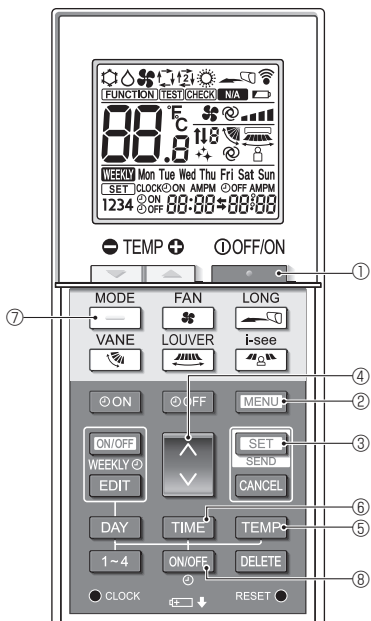

Fig. 6-6
1. Press the **STOP** button ① to stop the air conditioner.
2. Press the **MENU** button ②.
The Function setting screen will be displayed and the function No. ④ will blink. (Fig. 6-6)